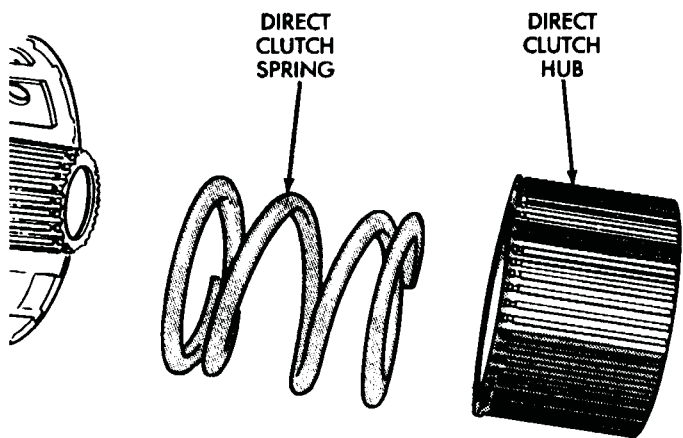

Fig. 25 Direct Clutch Hub And Spring Removal
(14) Remove direct clutch hub and spring (Fig. 25).